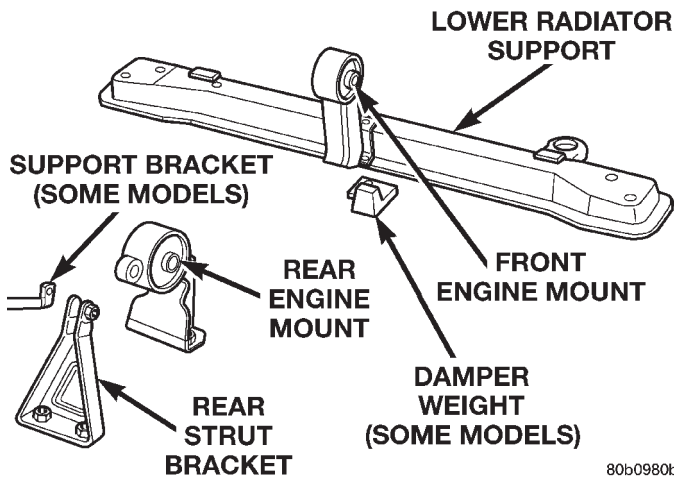

Fig. 21 Engine Mounting—Front and Rear
- (3) Remove rear strut bracket (Fig. 21).
- (4) Remove bolts attaching rear mount to cross-member.
- (1) Position rear mount.
- (2) Install bolts attaching rear mount to suspension crossmember. Tighten bolts to 61 N·m (45 ft. lbs.).
- (3) Install rear strut bracket (Fig. 21). Tighten bolts to 61 N·m (45 ft. lbs.).